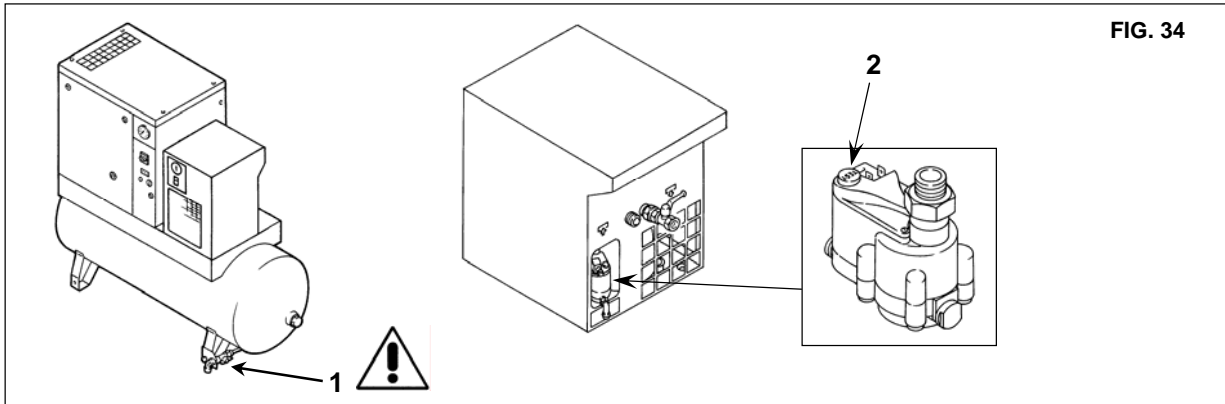

FIG. 34
The automatic and manual (Rif. 1 and Ref. 2 Fig. 34) condensation emptying should be checked every 500 hours or once a month.
- Press the "TEST" button, Ref. 2 Fig. 34, for a few seconds to check if the condensation is correctly emptied from the drainage pipe
- Check manual condensation emptying from the tank, to ensure that condensation is correctly emptied from the valve, Ref. 1 Fig. 34 (**PURGE EVERY WEEK**).